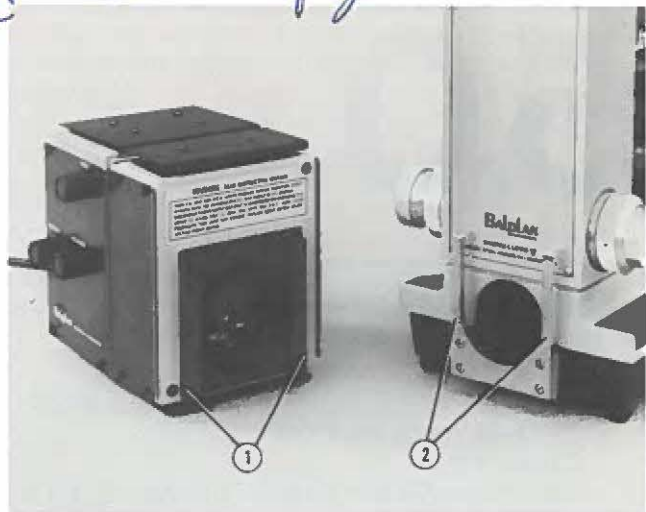

FIGURE 4-3 INSTALLING LAMPHOUSE ON RESEARCH BASE ILLUMINATOR
4.1.6 Be sure that the line voltage is a nominal 120 volts, 60 Hz. Install the lamphouse on the dovetail slide of the research base illuminator (Figure 4-3), or the incident-fluorescence illuminator.